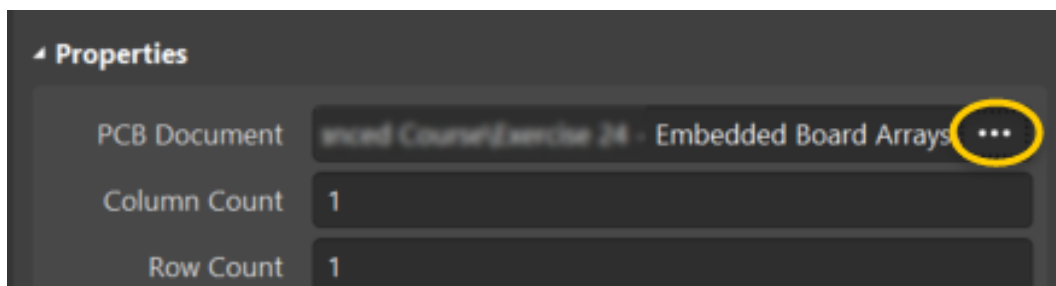

Figure 1. Source PCB for panelizing
- c) In the *Properties* panel, click the **...** button to the right of the *PCB Document* field, as shown in Figure 1 below.